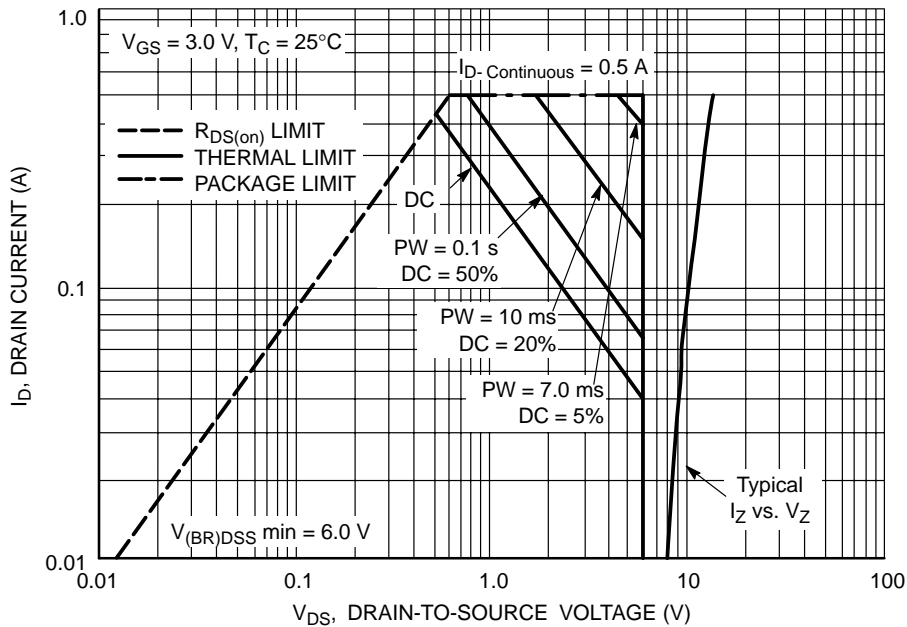

Figure 10. Safe Operating Area
Thus for a 20% duty cycle and a PW = 40 ms, Figure 10 yields  $r(t) = 0.3$  and when entered in the above equation, the max allowable  $Pd(pk) = 390$  mW for a max  $T_A = 85^{\circ}C$ .
3. Use Figures 10, 11 and 12 with the SOA notes to insure that instantaneous operation does not push the device beyond the limits of the SOA plot.